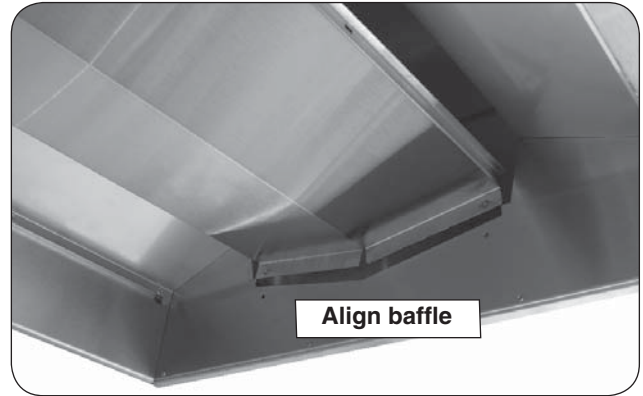

Fig. 14-1
1. Carefully raise the baffle up into the vent hood. You will first need to slide one side in at a slight angle, until the baffle edge aligns above the inner wall (see Fig. 14-1). Then raise the opposite side of the baffle until it also aligns. Drop the baffle into place.